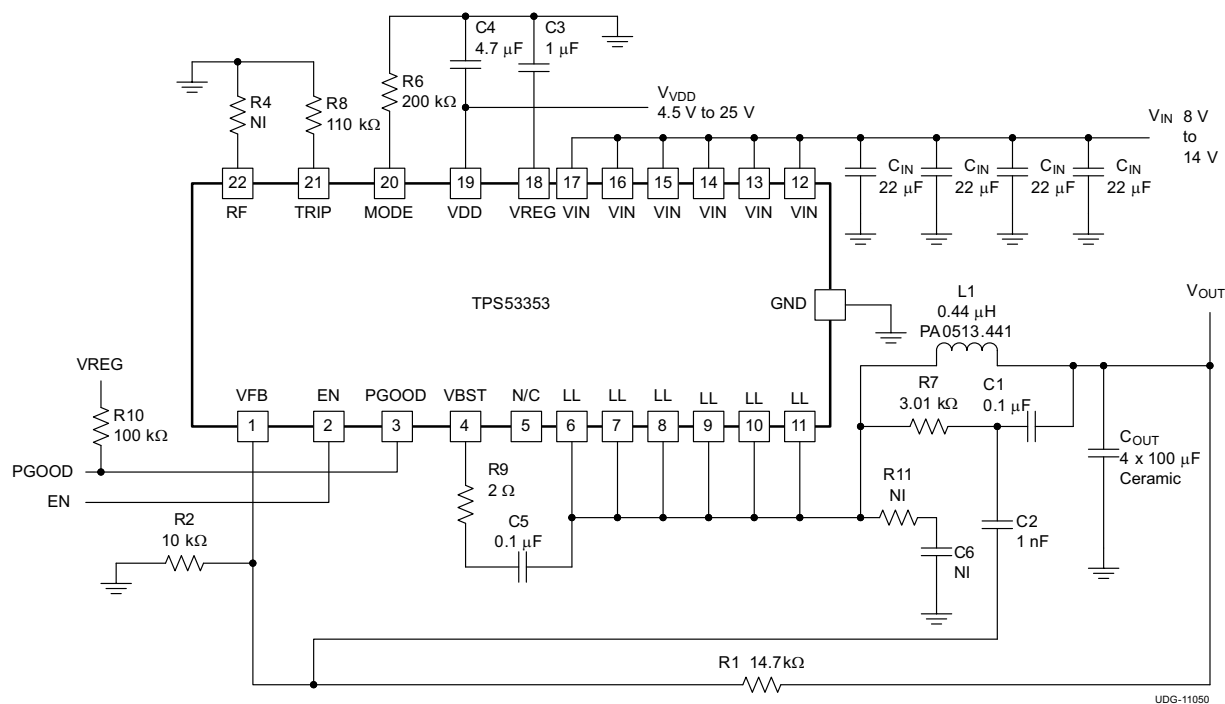

图 41. Typical Application Circuit Diagram With Ceramic Output Capacitors
When a ceramic output capacitor is used, the stability criteria in 公式 6 cannot be satisfied. The ripple injection approach as shown in 图 41 is implemented to increase the ripple on the VFB pin and make the system stable. In addition to the selections made using Steps 1 through Step 6 in the section, the ripple injection components must be selected. The C2 value can be fixed at 1 nF. The value of C1 can be selected from 10 nF to 200 nF.
- Connect the ripple injection V_{OUT} signal (V_{OUT} side of the C1 capacitor in 图 41) from the terminal of ceramic output capacitor. The AC coupling capacitor (C2 in 图 41) should be placed near the device, and R7 and C1 can be placed near the power stage.